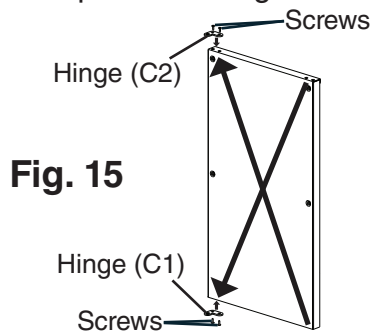

**Fig. 13**
- d) Remove hinge (B) from the right side of the appliance and the 2 filler screws from the left side. Attach the 2 filler screws to the right side and attach hinge (B) to the left side. See Fig. 13.